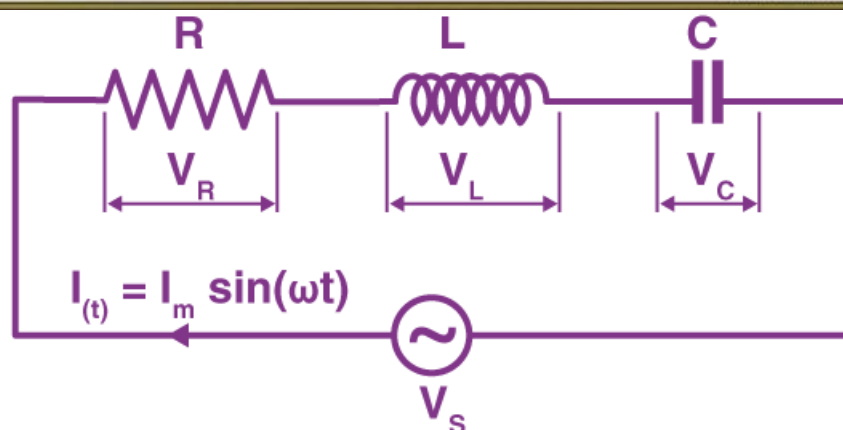

Figure 10: Illustration of Inductors and Capacitors in an Electric Circuit
In alternating current (AC) circuits, capacitors are like variable resistors that resist rapid voltage changes by storing and releasing electrical charge when required, while inductors are like variable resistors that resist rapid current changes by creating a magnetic field that opposes the change in current flow, both of which are dependent on the frequency of the alternating current (AC) signal; basically, capacitors lead the current in an alternating current (AC) circuit while inductors lag the current see figure 10.